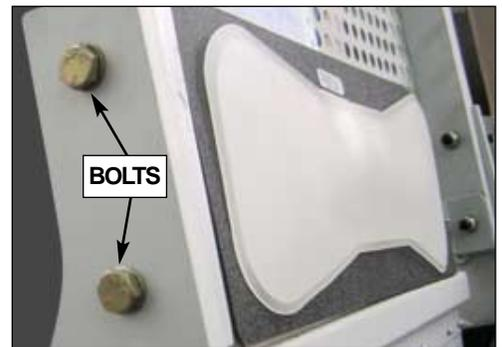

FIG. 308A:
- (2) Remove backrest assy from the seat by removing two bolts and nuts from both sides of the backrest (see fig. 308A).